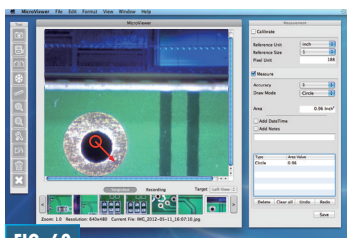

FIG. 69
5. Drag to the outer edge of the object (**Fig. 69**).